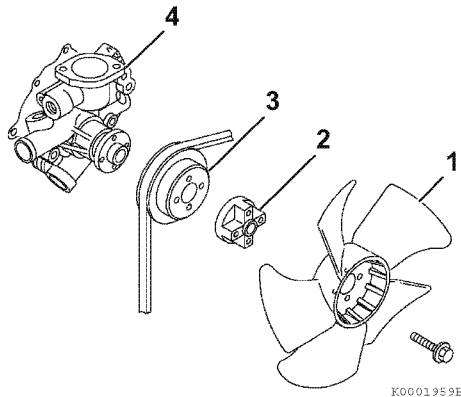

Figure 8-10
7. Reinstall the engine coolant pump V-pulley (**Figure 8-10, (3)**), spacer (**Figure 8-10, (2)**) engine coolant fan (**Figure 8-10, (1)**) and engine coolant fan guard (if equipped).